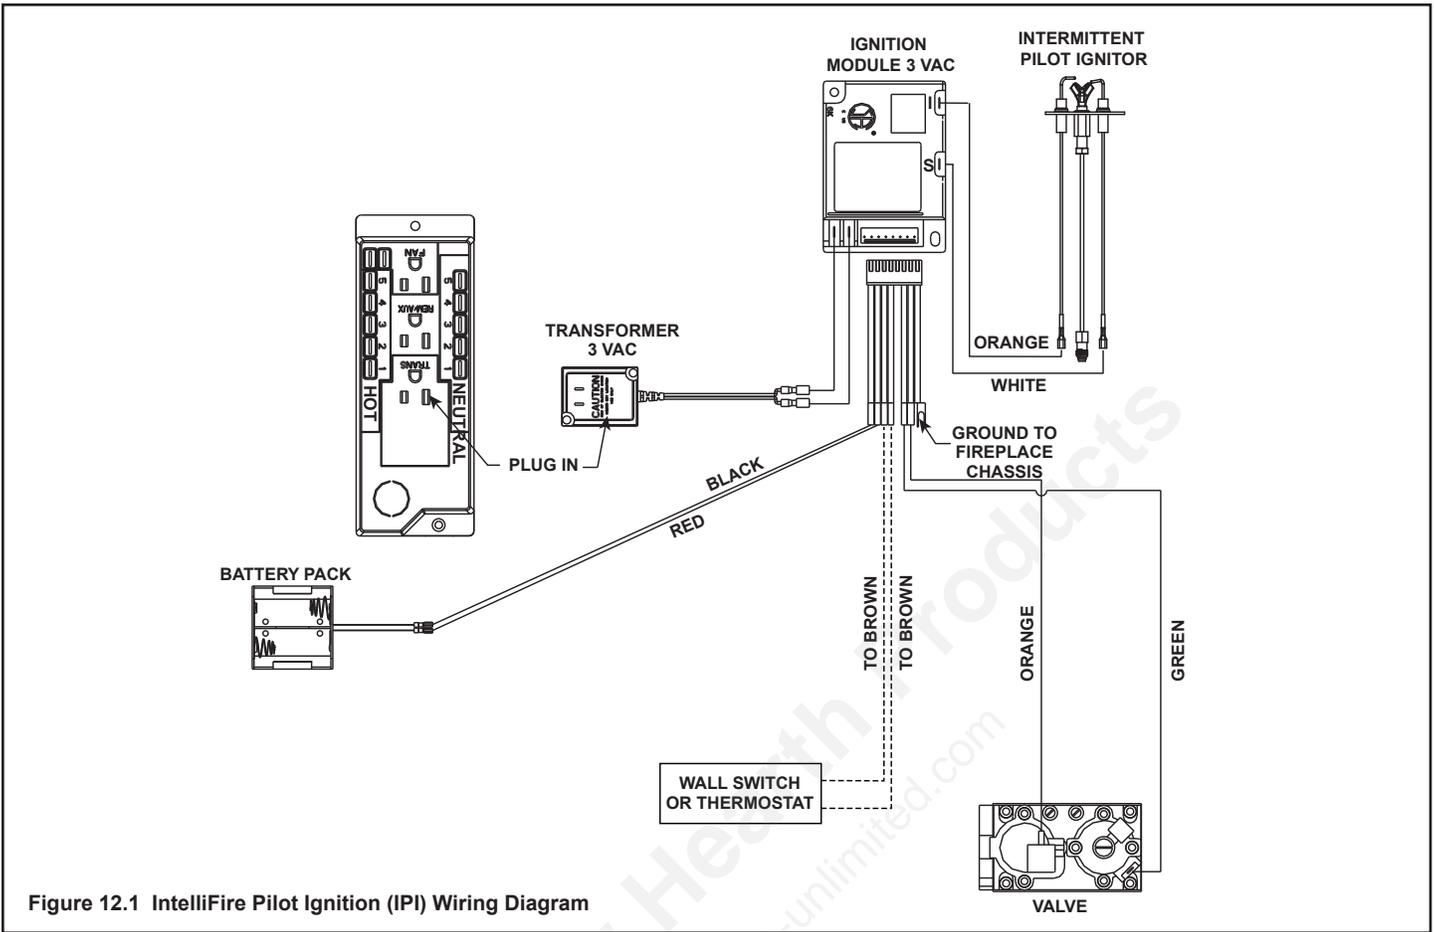

Figure 12.1 IntelliFire Pilot Ignition (IPI) Wiring Diagram
- Refer to Figure 12.1, IntelliFire Pilot Ignition (IPI) Wiring Diagram.